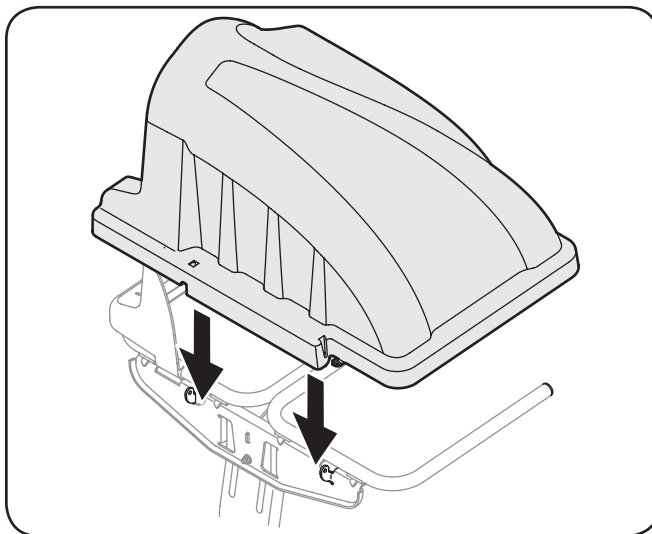

Figure 4-11
5. Install the bagger cover onto the bag support assembly, as seen in Fig. 4-11. The plastic cover goes inside of the two mounting tabs.